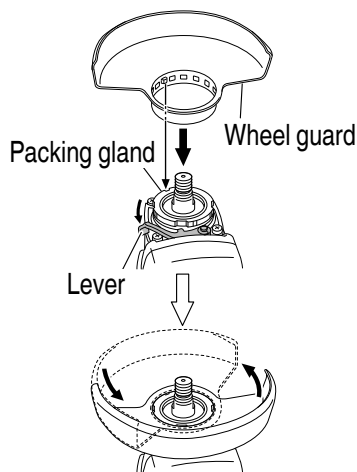

Fig. 2
4. Fitting and adjusting the wheel guard (**Fig. 2**)